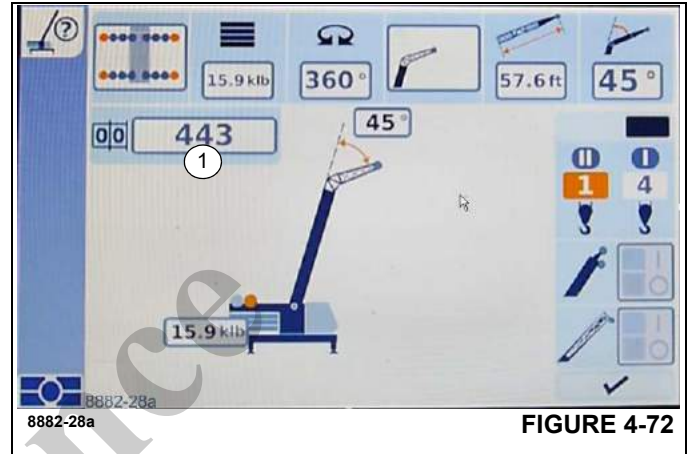

FIGURE 4-72
- Select the symbol (1), (Figure 4-72).